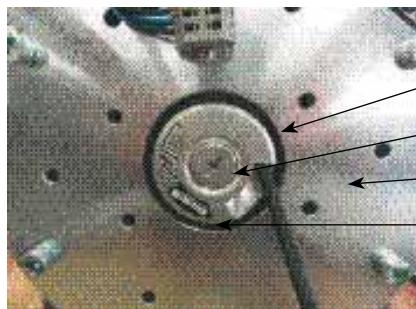

Fig. 7 :
- Identify the encoder by means of the reference indicated on the encoder label (Fig. 7)
Important: Do not dismantle the brake (Ref. 3 fig. 7) which is centre-mounted towards the rotor in the factory at a tolerance of 0.1 mm by using a special tool. The encoder is located in the brake with bore Ø65 (Ref. 6 fig. 9) towards the motor shaft (ref 7 fig. 9)
- Unscrew (2 turns with spanner SW2) the fixing screw of the coupling of the encoder (Ref. 1 fig. 7) in the location of the encoder in the brake.
- Remove the plug (Ref.2 fig. 7) from the encoder (spanner SW4 or screwdriver).
- Tighten the small socket screw Chc M2.5 (Ref 1 fig. 7) (SW2 torque wrench or screwdriver) of the tightening screw of the coupling of the encoder to a torque of 1.25 Nm 0/-0.2 Nm.
- Retighten the encoder plug (Ref. 2 fig. 7), (SW4 spanner or screwdriver).